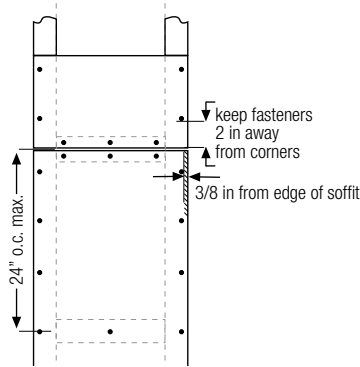

Figure 5
- Ensure gutters have end caps. Maintain a minimum 1 in gap between end caps and siding & trim (fig.5).